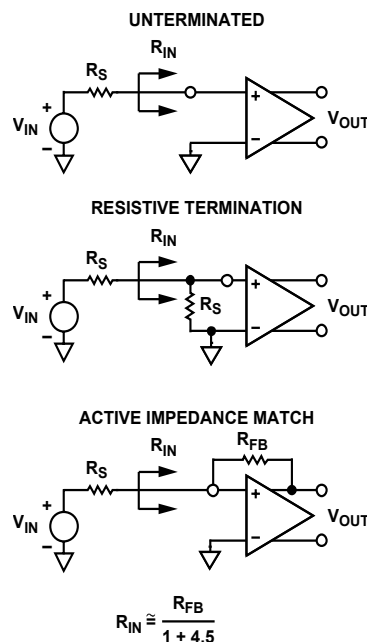
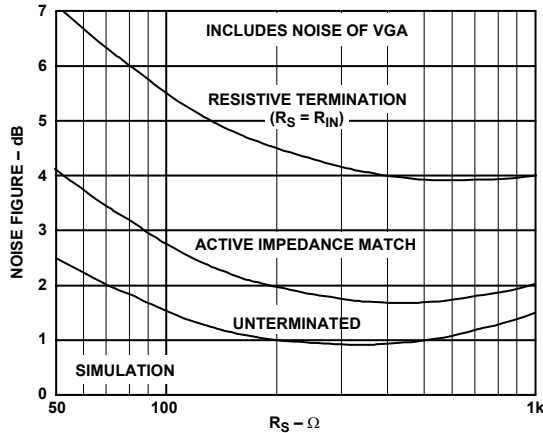
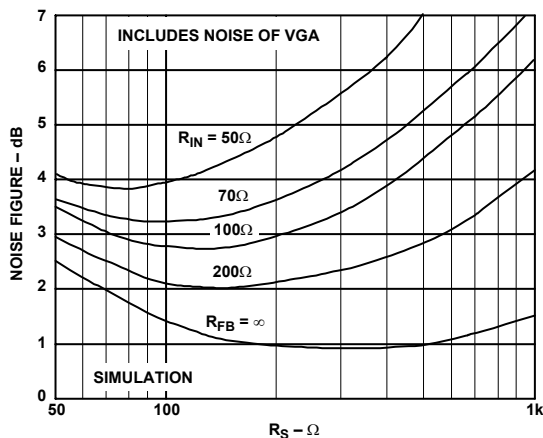

Figure 57. Input Configurations
Figure 58. Noise Figure vs.  $R_S$  for Resistive, Active Matched and Underterminated Inputs
Figure 59. Noise Figure vs.  $R_S$  for Various Fixed Values of  $R_{IN}$ , Actively Matched
The input-referred voltage noise of the AD8332 sets an important limit on system performance. The short-circuit input voltage noise of the LNA is 0.74 nV/ $\sqrt{\text{Hz}}$  or 0.82 nV/ $\sqrt{\text{Hz}}$  (at maximum gain), including the VGA noise. The open-circuit current noise is 2.5 pA/ $\sqrt{\text{Hz}}$ . These measurements, taken without a feedback resistor, provide the basis for simulating the input noise and noise figure performance of the configurations in Figure 57, which is shown in Figure 58 and Figure 59. Unterminated ( $R_{FB} = \infty$ ) operation exhibits the lowest equivalent input noise and noise figure. Noise figure versus source resistance plots are shown in Figure 58, rising at low  $R_S$ , where the LNA voltage noise is large compared to the source noise, and again at high  $R_S$  due to current noise. The VGA's input-referred voltage noise of 2.7 nV/ $\sqrt{\text{Hz}}$  is included in all of the curves.
The primary purpose of input impedance matching is to improve the system transient response. With resistive termination, the input noise increases due to the thermal noise of the matching resistor and the increased contribution of the LNA's input voltage noise generator. With active impedance matching, however, the contributions of both are smaller than they would be for resistive termination by a factor of  $1/(1 + LNA\ Gain)$ . Figure 58 shows their relative noise figure (NF) performance. In this graph, the input impedance has been swept with  $R_S$  to preserve the match at each point. The noise figures for a source impedance of 50  $\Omega$  are 7.1 dB, 4.1 dB, and 2.5 dB, respectively, for the resistive, active, and unterminated configurations. The noise figures for 200  $\Omega$  are 4.6 dB, 2.0 dB, and 1.0 dB, respectively.
Figure 59 is a plot of the NF versus  $R_S$  for various values of  $R_{IN}$ , which is helpful for design purposes. The plateau in the NF for actively matched inputs mitigates source impedance variations. For comparison purposes, a preamp with a gain of 19 dB and noise spectral density of a 1.0 nV/ $\sqrt{Hz}$ , combined with a VGA with 3.75 nV/ $\sqrt{Hz}$ , would yield a noise figure degradation of